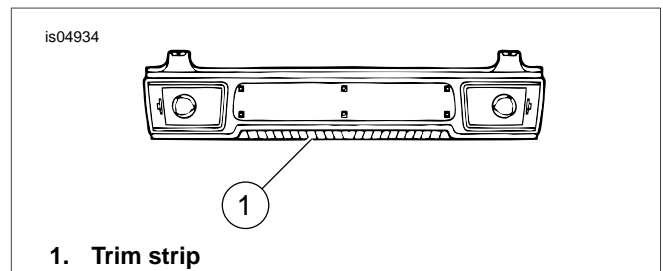

Figure 6. Apply Trim Strip
14. See Figure 6. Mount housing with holes aligned in Tour-Pak. If Tour-Pak has a Harley-Davidson decal at the back, which partly shows outside of lamp housing, remove paper from back of solid black trim strip. Mount trim strip on Tour-Pak under lamp housing flush with the two lower edges of housing.